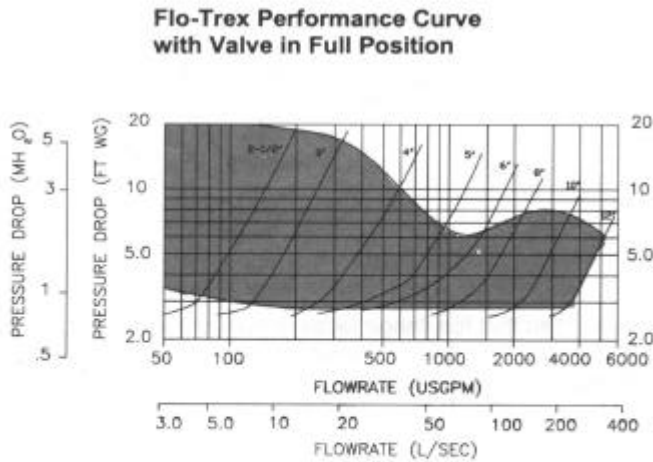

Fig. 2
6.23 Refer to Flo-Trex Performance Curves with valve in full open position (Fig 2).
6.3.4 On the Flo-Trex Performance Curve (fig. 2) locate the differential pressure obtained in Step 6.3.2 and project line horizontally across to intercept with Valve Performance Curve. Drop a line vertically down to read the flow rate at the bottom of the chart.
- From the Flo-Trex Performance Curve (fig 2), a 4 inch, valve with 5.4 ft. pressure drop (1.65 m) represents a flow of 400 USgpm (25.2 l/s).